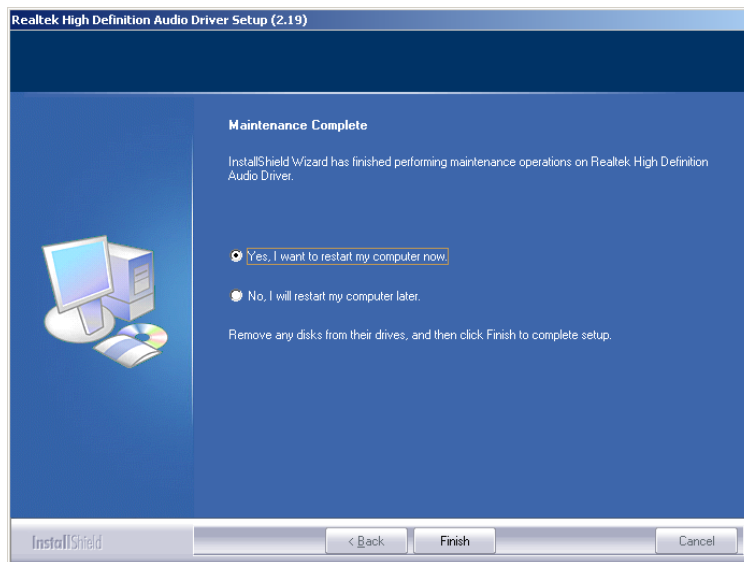

Figure 7-35: Restart the Computer
Step 13: After the driver installation process is complete, a confirmation screen appears (Figure 7-35).